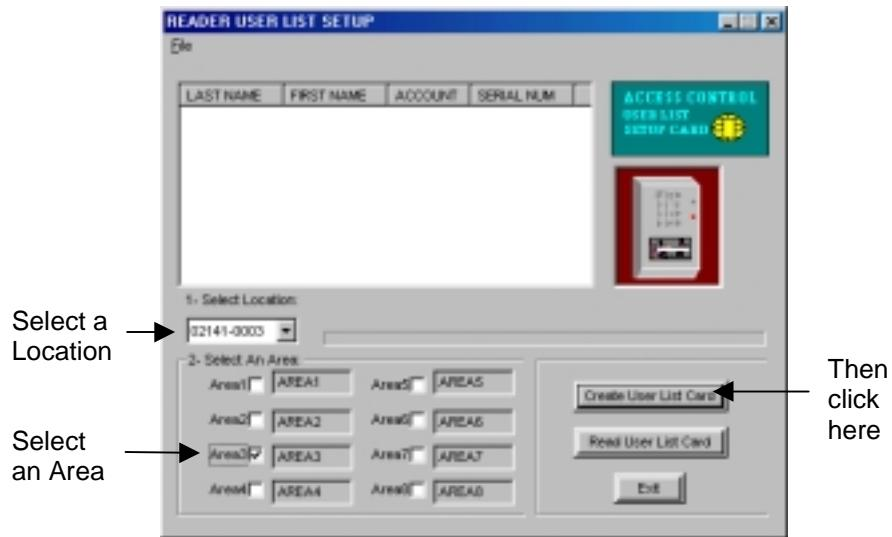

Figure 11.43 Creating a Reader User List Setup Card
2. Select the Location of the reader from the Location drop-down menu (Figure 11.43).
3. Select the reader's Area (Figure 11.43).
5. Click the Create User List Card button (Figure 11.43).